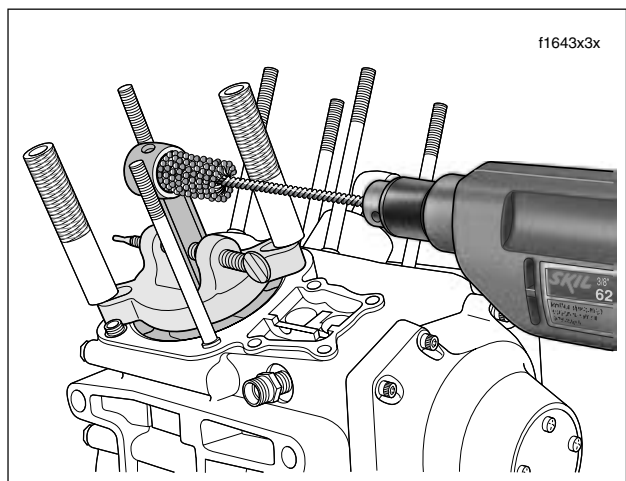

Figure 3-100. Hone Connecting Rod Bushing
- d. Activating the drill, move the entire length of the finishing stone arrangement forward and backward through the bushing bore for 10 to 12 complete strokes. See Figure 3-100. Work for a crosshatch pattern of approximately 60°.